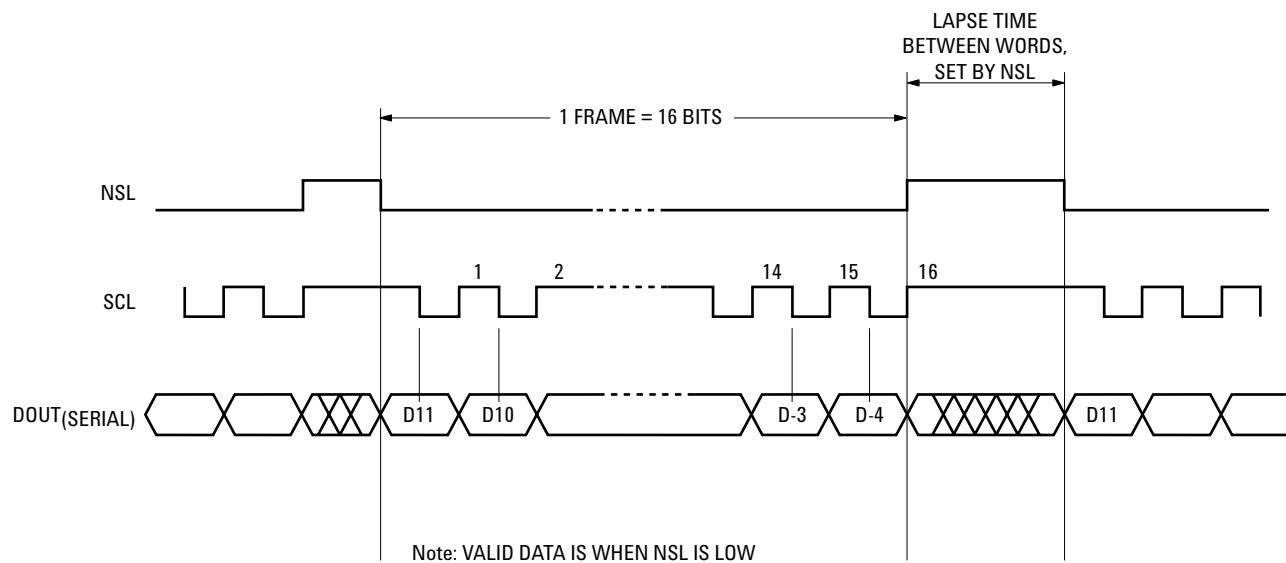

Figure 2. Timing diagram.
Valid data of DOUT should be read when the SCL clock is low. Please refer to timing diagram (Figure 2).
- 1) After powering up the unit using VCC = +5 V and connecting GND to ground, trigger input pins NSL and SCL using the timing diagram below (Figure 2). NSL is a control pin for the internal shift register. When triggered to low and combined with clock pulses, the serial Gray code will be shifted out to DOUT bit by bit per every clock pulse